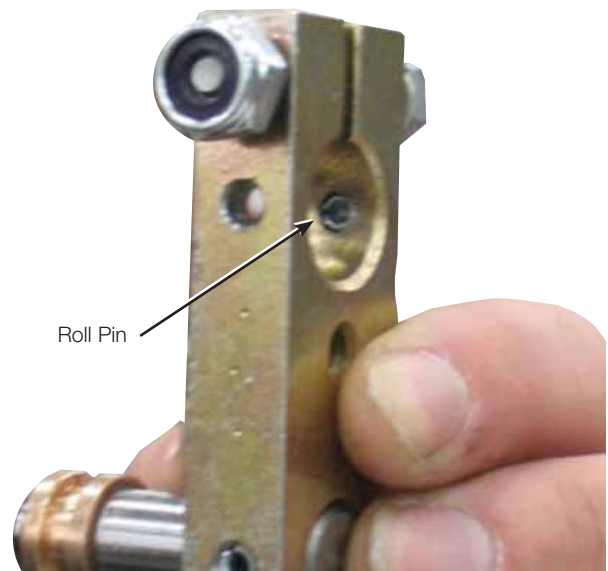

Figure 14.
- g. Before installing the new crank lever assembly, ensure that the partially inserted roll pin does not interfere with the shaft hole. Refer to Figure 14.